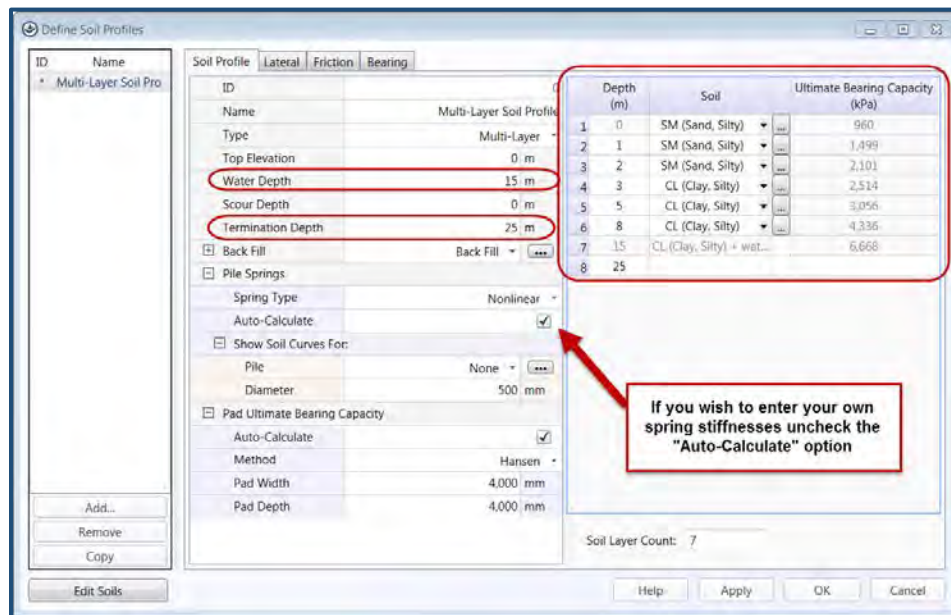

Figure 62. Defining Multi-Layer Soil Profiles
4. Review your foundation's Soil Profile specifications by clicking on the "Soil" tab. Refer to the Soil Profile Definition in Fig. 62 for details on the various depths. Note that we have used the default pile length of 10m in this example. This can be adjusted if desired (Define→Piles).